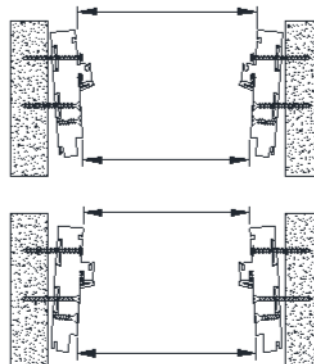

Figure 13
- **Helpful Tip:** If the panels are crashing or are too far apart, the frame jambs may have rotated during installation. Measure frame width on interior and exterior (Figure 13) to ensure that jambs are parallel and straight. This condition can be corrected by loosening screws in the jambs and adjusting the shims.